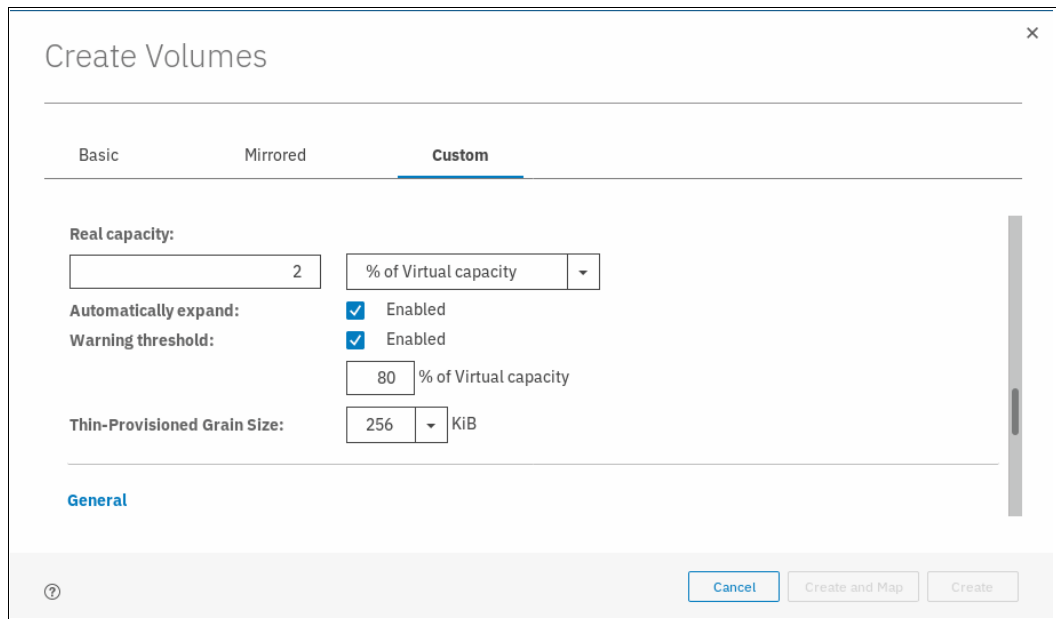

Figure 6-21 Volume Location for thin-provisioned volume
- Use the drop-down menu in the **Pool** option to choose the pool. All other options, such as Volume copy type, Caching I/O group, Preferred node, and Accessible I/O groups, can be left with their default options, as shown in Figure 6-21.